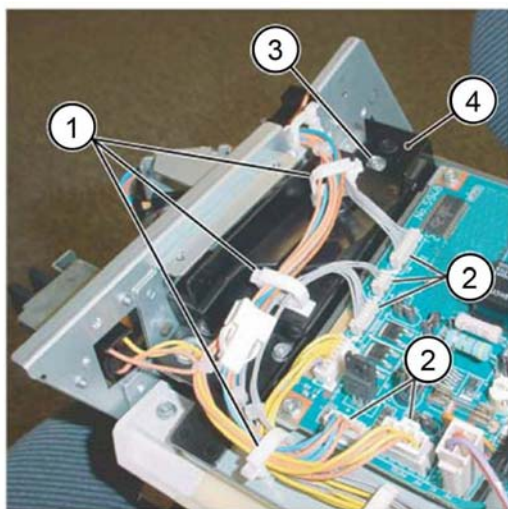

Figure 1 Connector bracket removal
6. Remove the connector bracket, Figure 1:
- a. Release the harness from the three clamps (1).
- b. Disconnect the connectors (2).
- c. Remove two screws (3).
- d. Remove the connector bracket (4).